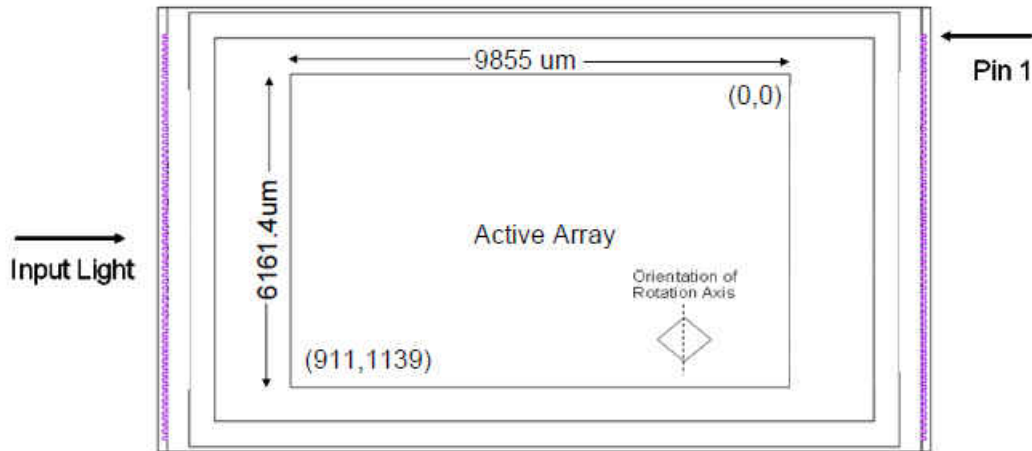

图 7-4. DLP4500NIR Micromirror Active Area
- (1) The mirrors that form the array border are hard-wired to tilt in the - 12° (“Off”) direction once power is applied to the DMD (see Micromirror Array, Pitch, and Hinge-Axis Orientation and Micromirror Landed Positions and Light Paths).
- (2) See Micromirror Array, Pitch, and Hinge-Axis Orientation.
- (3) See Micromirror Active Area in 图 7-4.